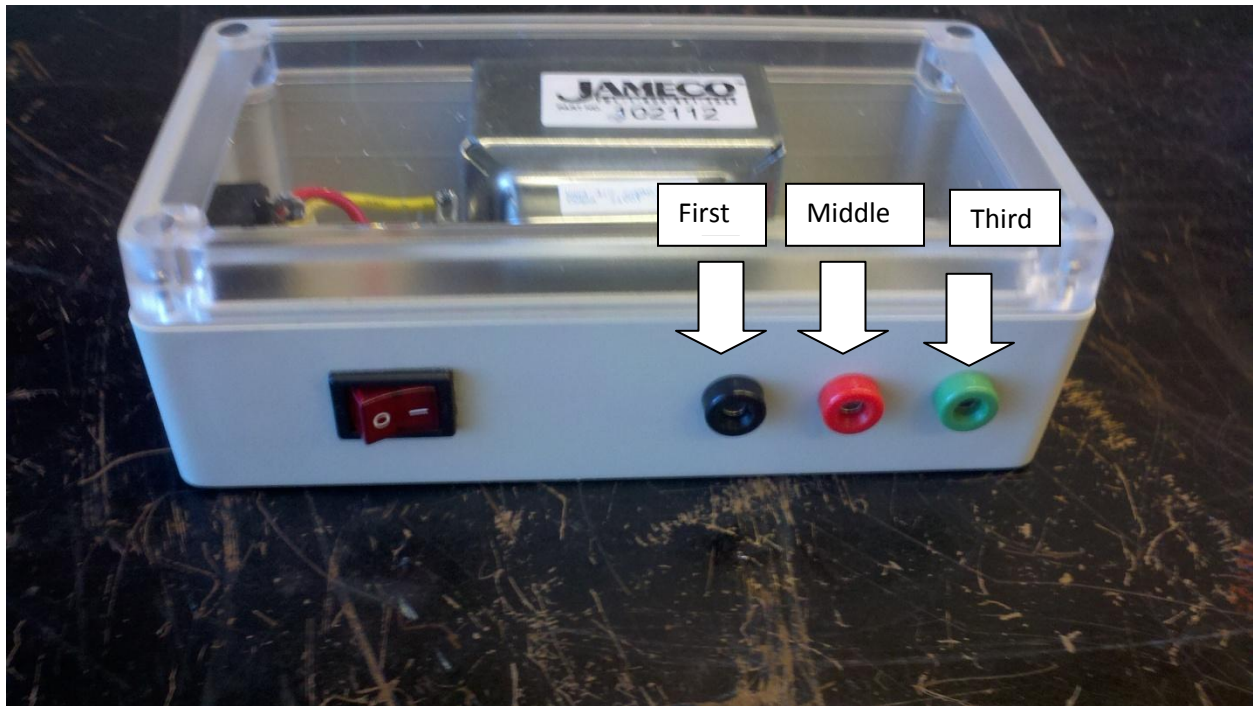

Figure 4. Ac Transformer Test Box. Only Available for On-Campus Students.
1. Obtain the AC transformer box and a line cord from the course instructor. This device is shown in Figure 4. Connect the line cord to the transformer box and turn it on. An indicator light should light up. Set the multimeter to measure AC voltage.